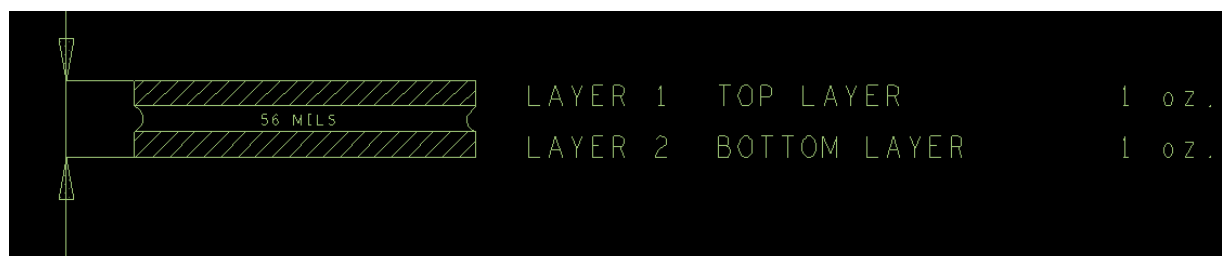

Figure 3. RT1020-EVK stackup
- The recommended stackup is two layers, with the layer stack shown in Figure 3.